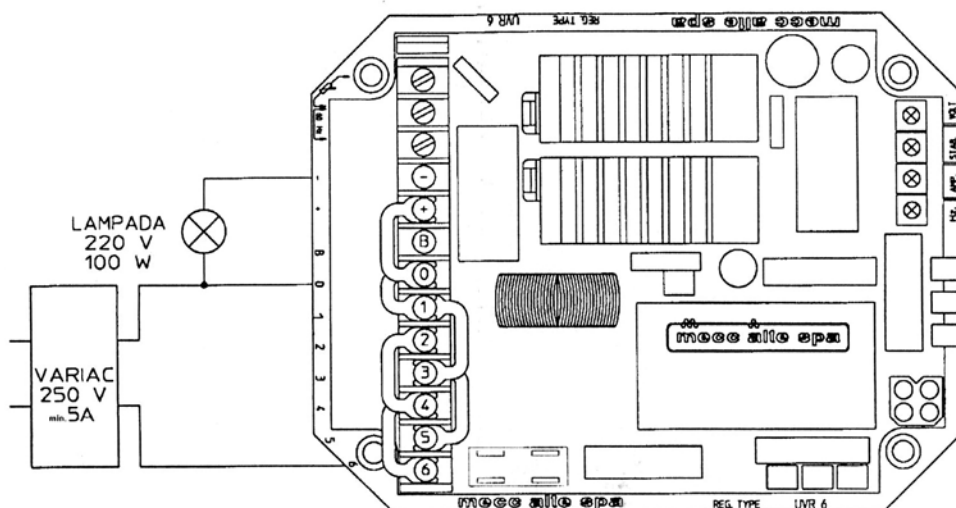

fig. 10
-) Prepare the connection diagram as shown in figure 10.